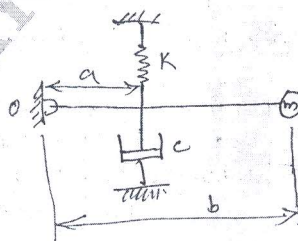

Fig. Q10 (b)
- b. Determine the damped natural frequency for the system shown in Fig. Q10 (b). Also if $m = 1.5$ kg, $K = 4900$ N/m, $a = 10$ cm and $b = 13$ cm, determine the critical damping co-efficient 'C' for the system. (10 Marks)